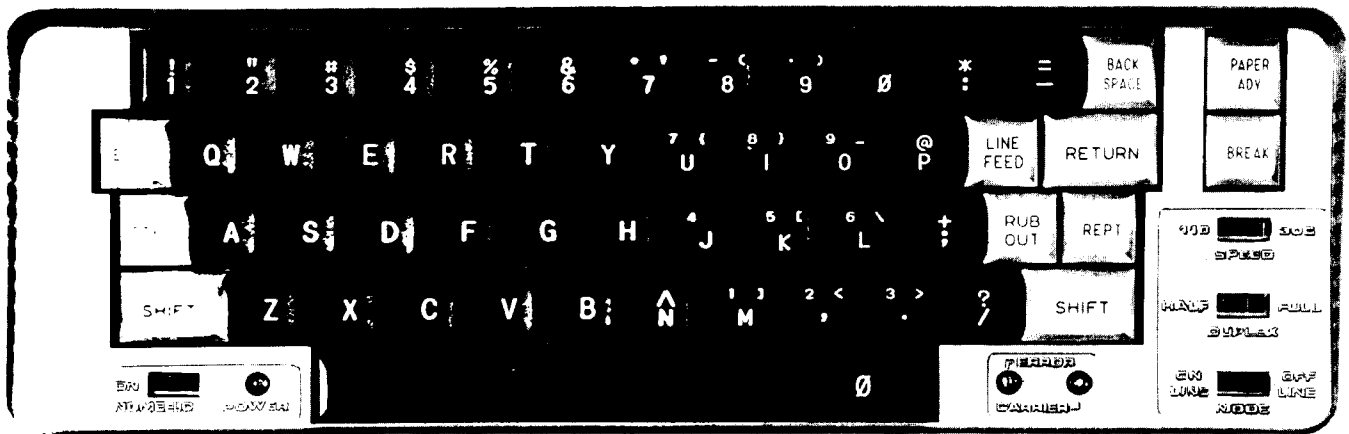

Figure 4. PT-210 Keyboard
- ① **Top Cover.** Be sure this Cover is closed and latched **before** you move the PT-210. You'll have to open the Cover to gain access to the Acoustic Coupler but close it to gain access to the Rear Compartment.
- ② **Acoustic Coupler.** Place the phone headset into this modem (phone cord to the left) once you've dialed the Host by telephone and it has "answered" the call.
- ③ **Print Head.** The Print Head moves to the left and right as printing occurs. Do not print without paper in the PT-210. Use only Radio Shack Thermal Paper (76-1003) which is compatible with your Terminal.
- ④ **Keyboard.** The standard, typewriter-styled Keyboard can be "switched over" for 13-key applications (See Figures 4 and 5.)
- ⑤ **Numeric Switch.** Set this Switch to ON when you want to re-define the keyboard for 13-key use.
- ⑥ **POWER On Indicator.** This red Indicator will light up when the PT-210 is properly connected and the Power Switch is set to ON.
- ⑦ **CARRIER Indicator.** This green Indicator will illuminate when you've established communication with the Host.
- ⑧ **ERROR Indicator.** This red Indicator will light up when a parity (odd or even) error is detected. You will have to reset the Terminal by turning the Power OFF, then back ON.
- ⑨ **Communications Protocol Panel.** Before beginning communications with a Host, set these Switches to select baud rate (SPEED), duplex (HALF or FULL), and mode (ON-LINE or OFF-LINE).
- ⑩ **PAPER ADVANCE Key.** When you need to advance the paper, press this Key.